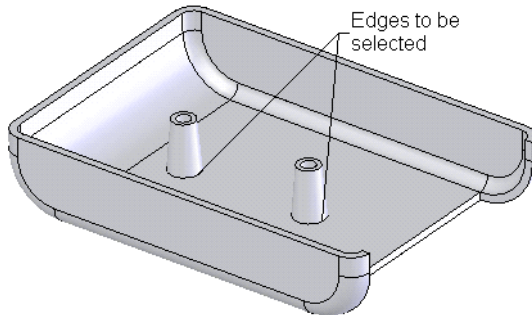

Figure 6-104 Edges to be selected
- Add the fillet feature to the extruded feature, refer to Figures 6-104 and 6-105.
1. Rotate the model and invoke the **Fillet PropertyManager**. Select the edges of the model as shown in Figure 6-104.